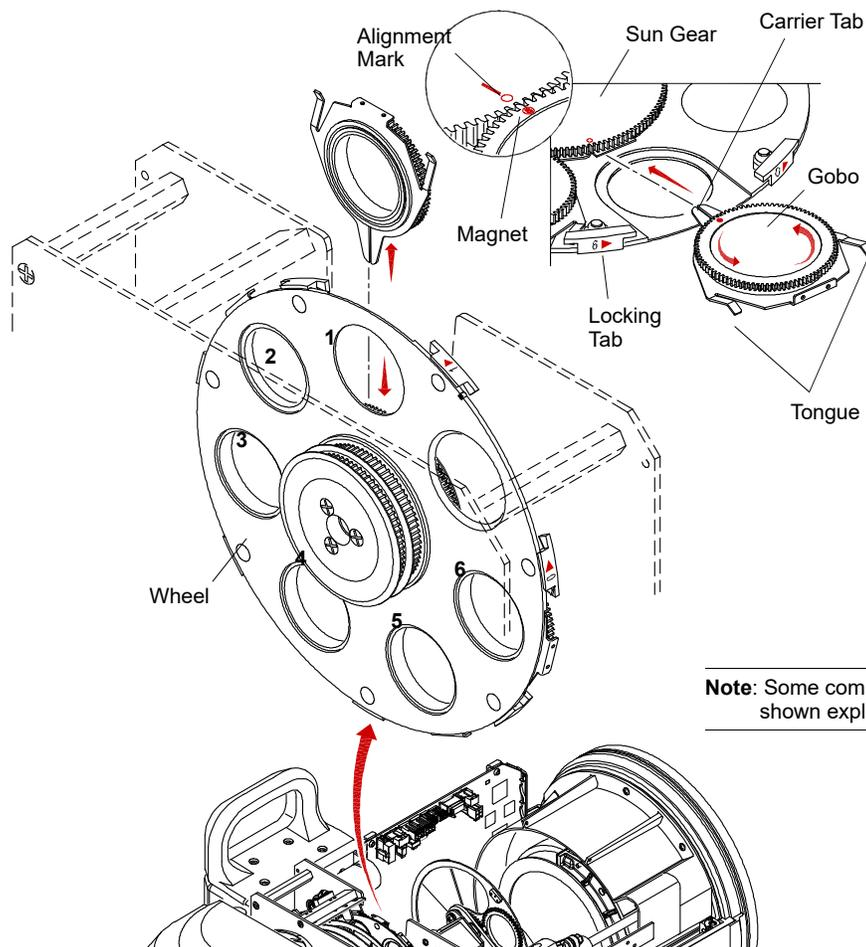

Figure 3-14: Replacing a Gobo (Wheel 2)
Step 3. Using fingers, grasp frame of each gobo and pull out of wheel (**Figure 3-14**). Remove ALL gobos.
- Align gobo's magnet with alignment mark on sun gear as shown in **Figure 3-14**.